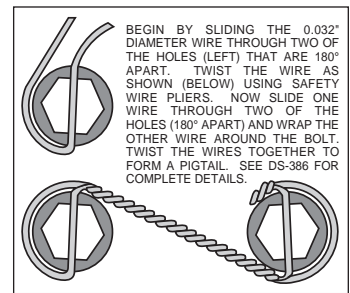

Figure 3. Safety Wire Diagram
- With the larger I.D. side of the rotor (3) facing away from the hat (4), bolt rotor (3) to hat (4) through the backside of the rotor using washers (5) and bolts (6). Using an alternating sequence, apply red *Loctite*® 271 to the threads and torque bolts to 155 **in-lb**. For an added measure of security, the bolts may be safety wired using standard 0.032 inch diameter stainless steel safety wire as shown in Figure 3. Please refer to Wilwood's data sheet DS-386 (available at www.wilwood.com/Pdf/DataSheets/ds386.pdf) for complete safety wire installation instructions.